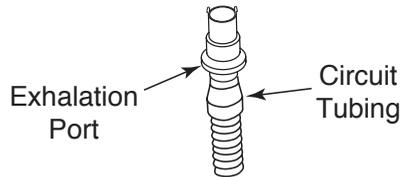

Figure 5-5 Connecting an Exhalation Device
- B. If you are using a mask with a separate exhalation device, connect the open end of the circuit tubing to the exhalation device as shown in Figure 5-5. Position the exhalation device so that the vented air is blowing away from your face.